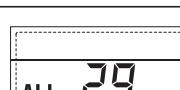

Fig. 23/23
- HEATING RETURN SENSOR ANOMALY "ALL 30" (fig. 23/24)